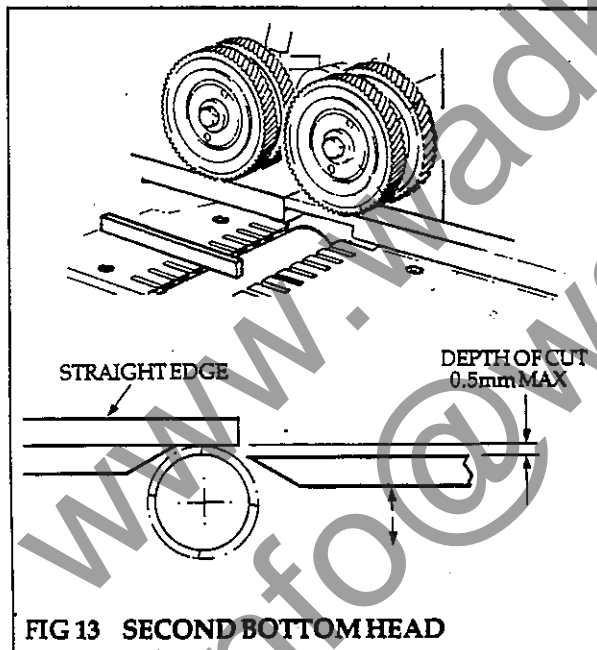

FIG 13 SECOND BOTTOM HEAD
Second Bottom Head (Fig 13, Fig 2)
- (1) Ensure the machine bed is clean.
- (2) Using a straightedge, as in setting the **First Bottom Head**, set the cutter height by adjusting the spindle, the blades should just touch the underside of the straightedge, (see Fig 13 and included diagram).